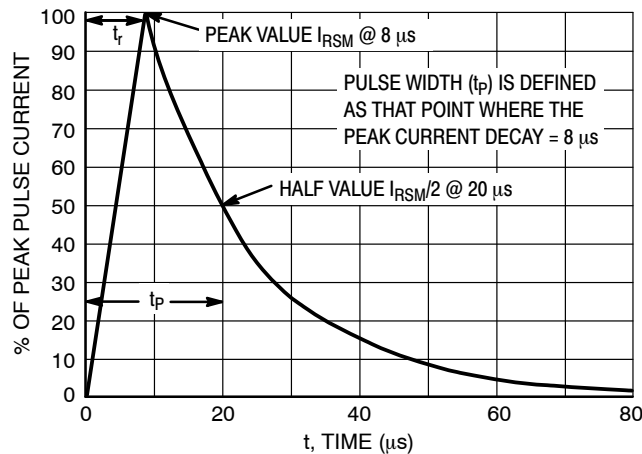

Figure 5. 8 X 20  $\mu$ s Pulse Waveform
3. Surge current waveforms per Figure 5.